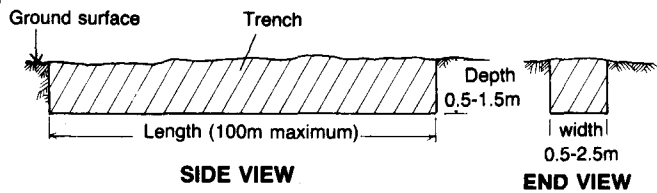

Figure 2. Trench Landfill
2. Design drawings similar to one or more of Figures 2, 3, and 4, showing the dimensions of the landfill.